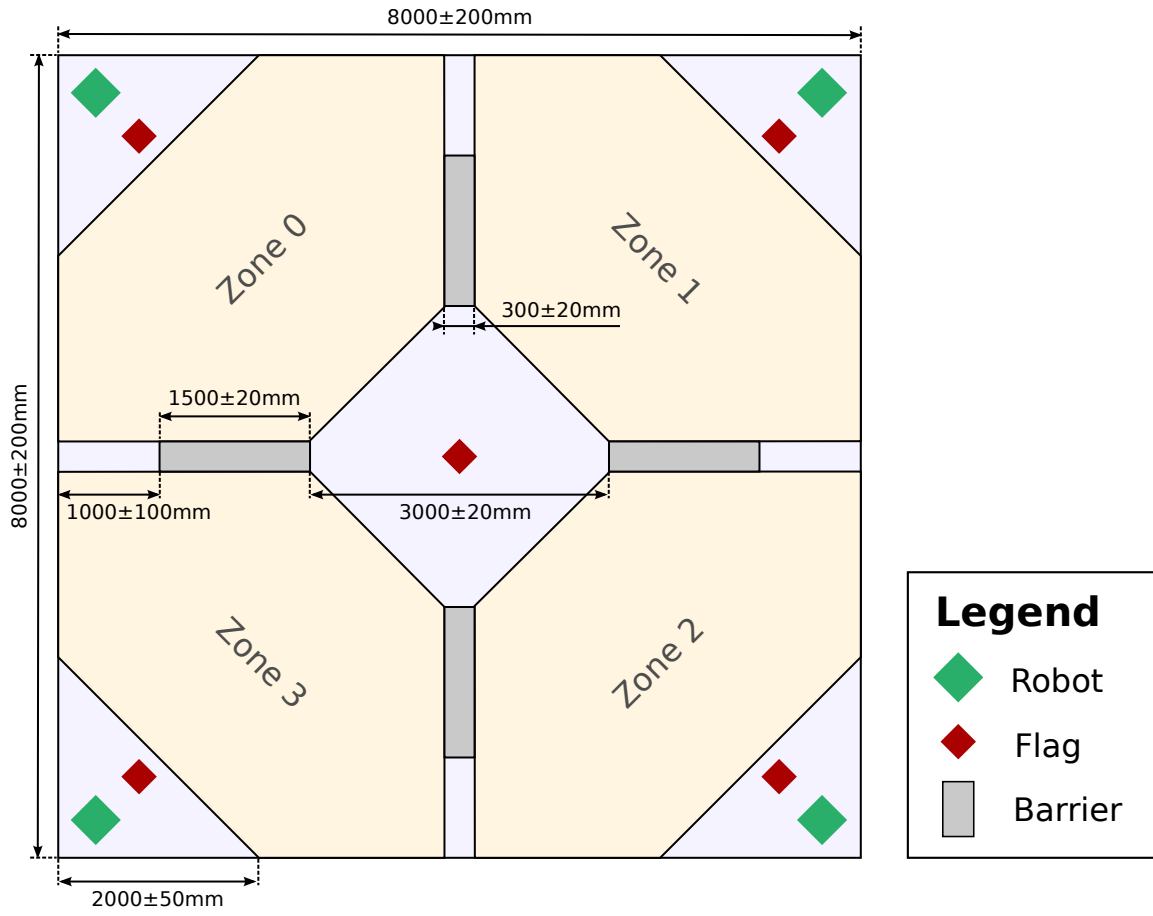

Figure 3: A bird's-eye view of the arena. All dimensions are in millimetres.
- 3.3.1 The match arena floor, overall, is an $8m \times 8m$ square, as shown in figure 3. The tolerance of these two dimensions is $\pm 0.2m$.
- 3.4.1 There are four zones in the arena, each in front of one of the corners. The arrangement and dimensions of these zones can be seen in figure 3.
- 3.4.2 Part of the boundary between adjacent zones will be formed by a barrier. The barriers will be $100 \pm 20mm$ high, $300 \pm 20mm$ wide and $1500 \pm 20mm$ long. The locations of the barriers can be seen in figure 3.